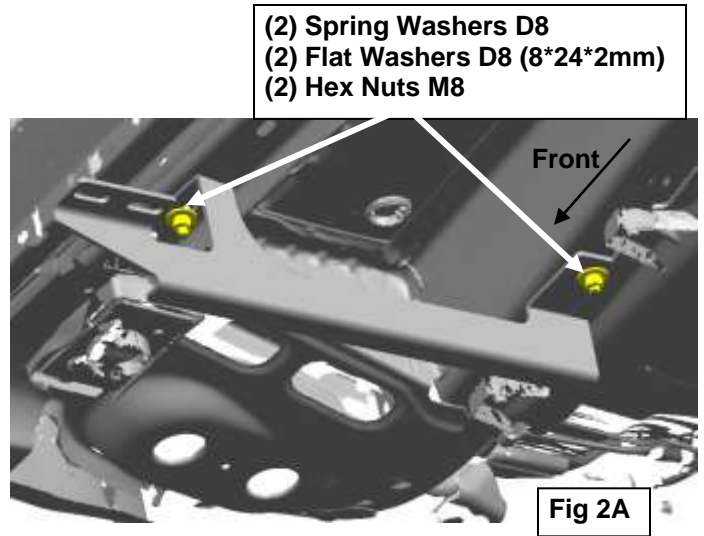

Fig 2A
4. Bolt the driver side outer Bracket to the back of the inner Bracket with the included (2) **Spring Washers D8**, (2) **Flat Washers D8 (8\*24\*2mm)**, (2) **Hex Nuts M8 (Figure 2A)**. Leave hardware loose at this time.